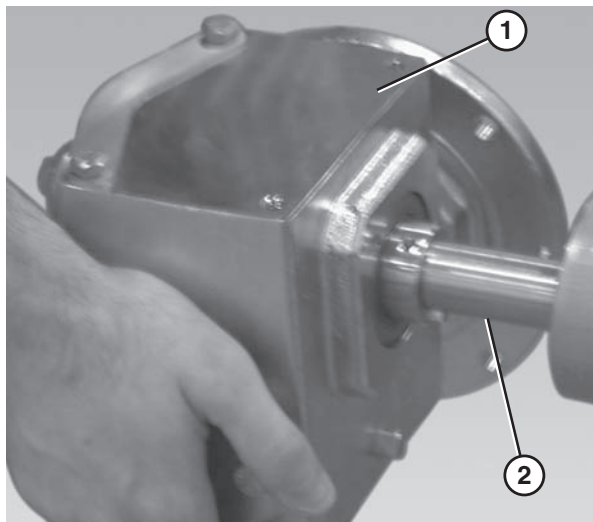

Figure 19
2. Slide the gearmotor assembly (Figure 19, item 1) onto the drive spindle (Figure 19, item 2).